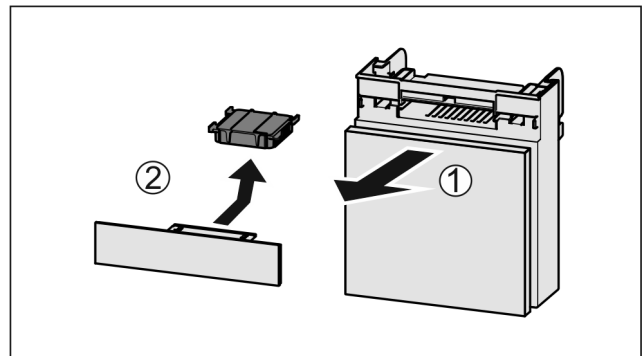

Fig. 164
- Pull out the compartment Fig. 164 (1).
- Remove the carbon filter Fig. 164 (2).